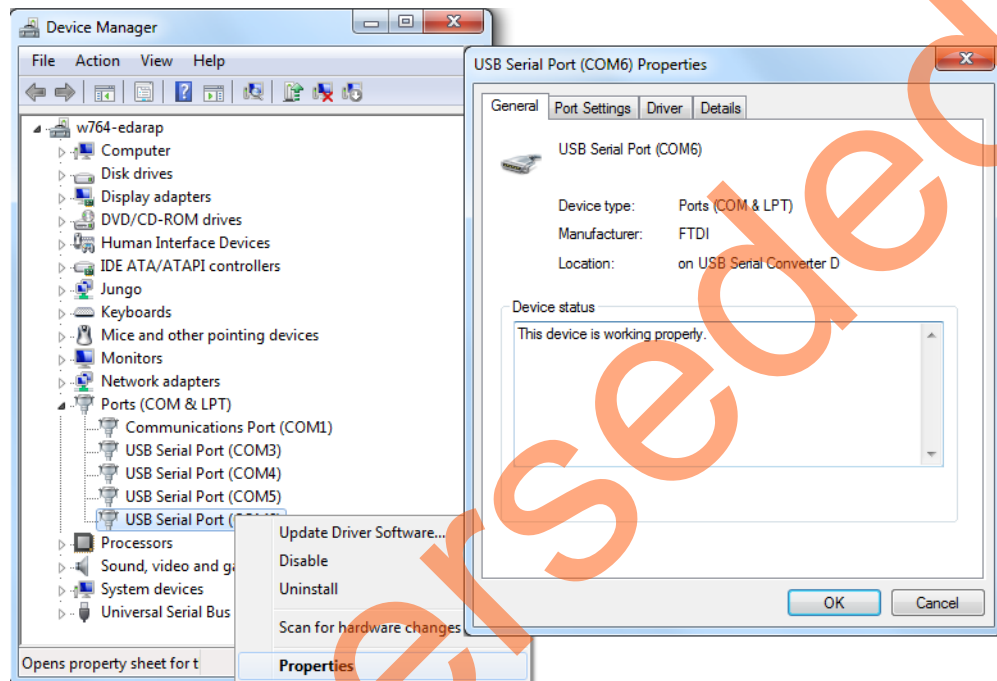

Figure 51 • Device Manager Window
2. Connect the host PC to the J18 connector provided on the SmartFusion2 Security Evaluation Kit using the USB min-B cable. Ensure that the USB to UART bridge drivers are automatically detected (can be verified in the Device Manager), as shown in Figure 51.
Note: Copy the COM port number for serial port configuration. Ensure that the COM port location is specified as **on USB Serial Converter D**, as shown in Figure 51.